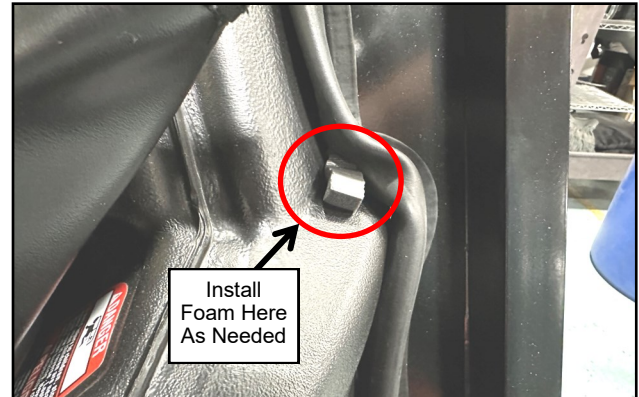

Fig. 2.36a (Install Foam on Left Fender)
2.36 Using a narrow plastic putty knife, push bulb rubber down in areas between the side frame and the vehicle's fender where gaps occur. If there are still gaps, cut 1/2" X 9/16" rubber foam (into 2" pieces) and install into any gaps that may be found between the left side of the cab and fender. On the right side, at the corner of the side frame and rear filler, as well as near the floorboard. Make sure to apply adhesive side onto the fenders of the vehicle. Per Figures 2.36a and b.